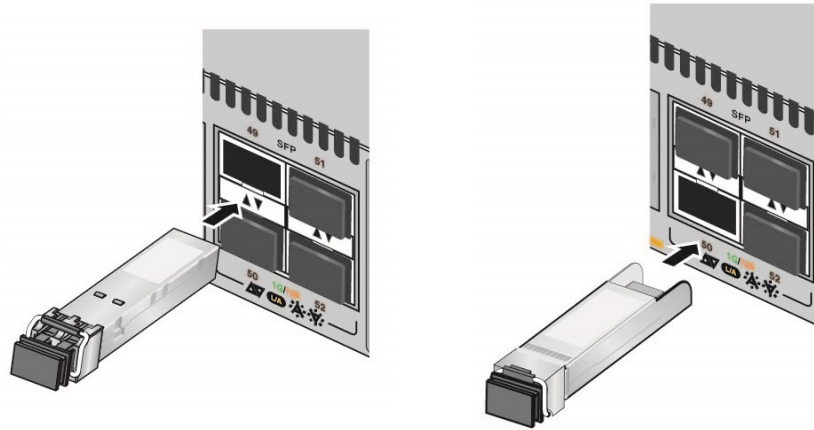

Figure 75. Installing an SFP+ Transceiver
4. Slide the transceiver into the port until it clicks into place, as shown in Figure 75 on page 146.